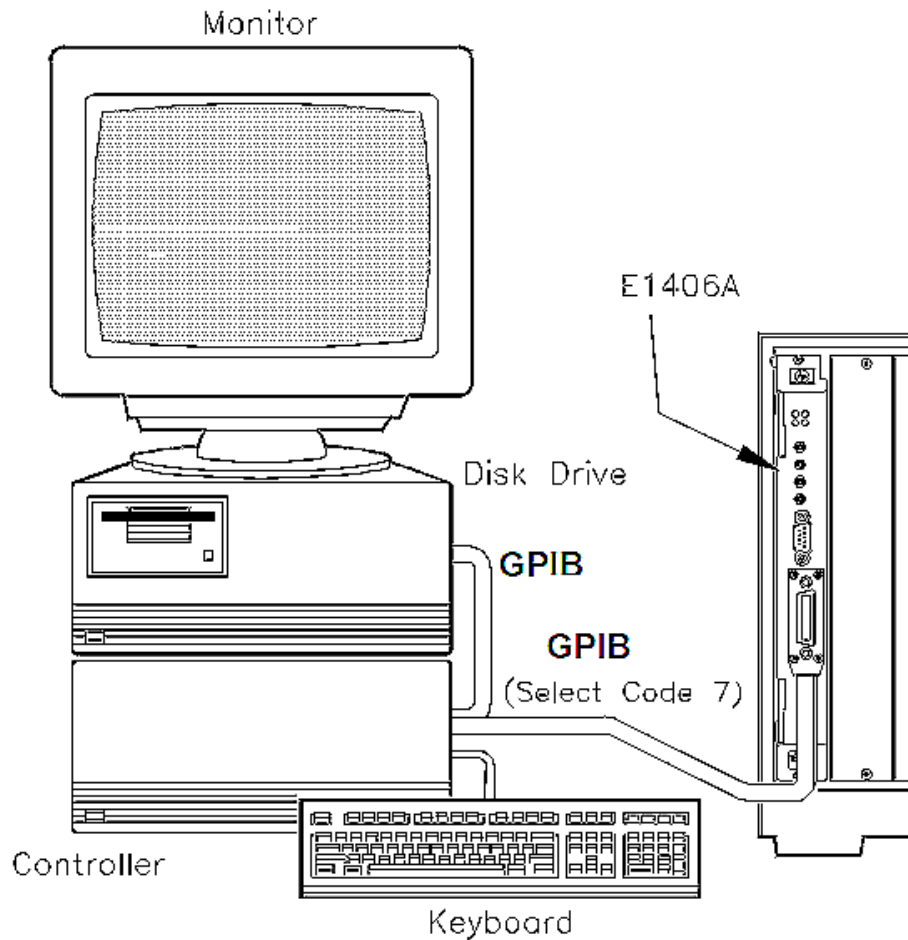

Figure 2-13 Test F-6: Triggering Info Connections
- Connect computer to Command Module (see Figure 2-13)